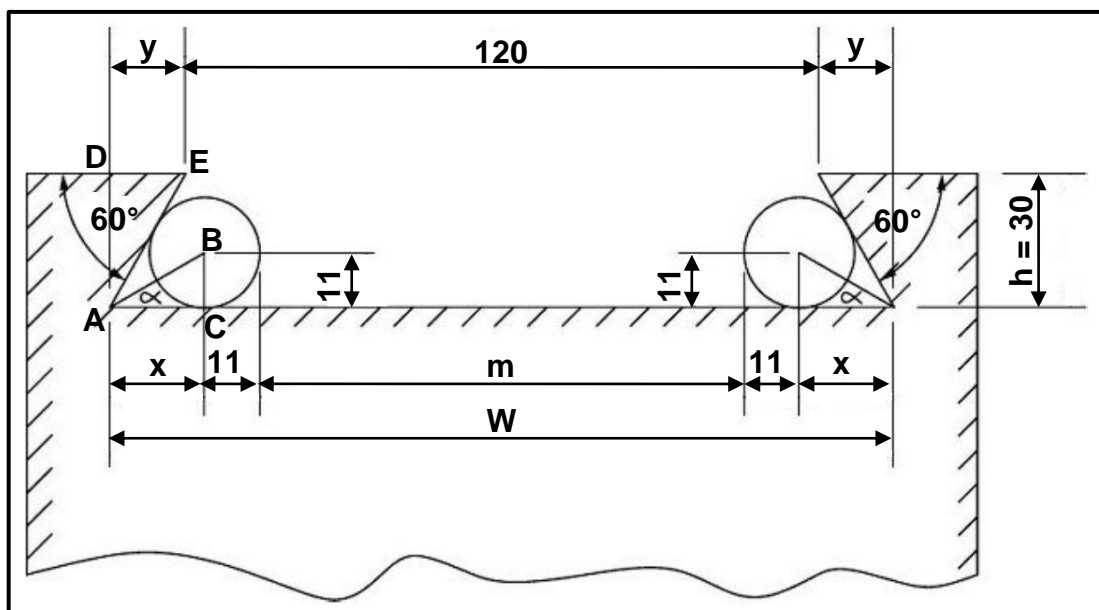

FIGURE 6.2
6.2 FIGURE 6.2 below shows an external dovetail that must be manufactured for a compound slide of a centre lathe.